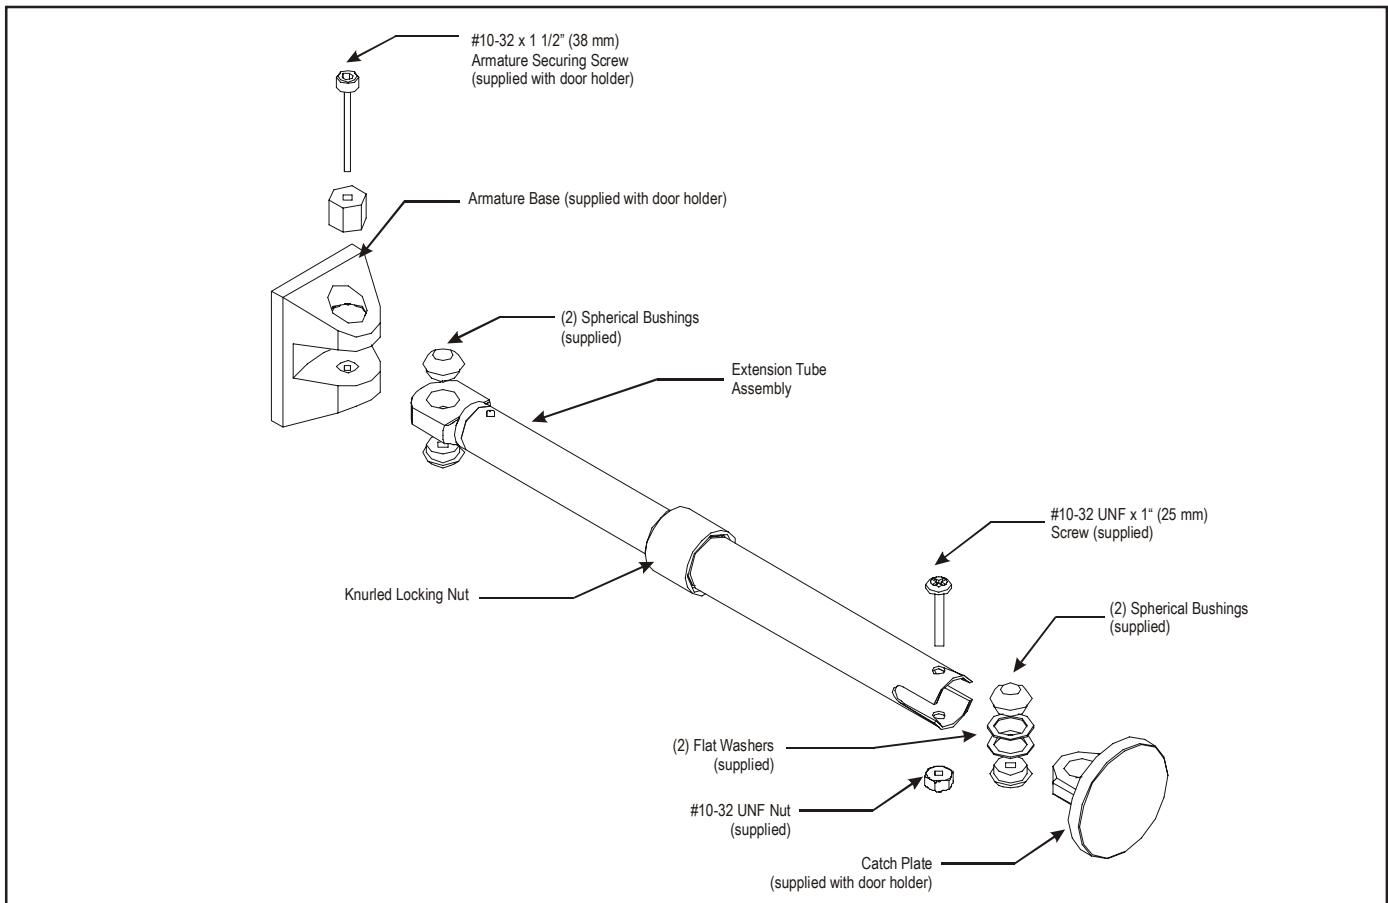
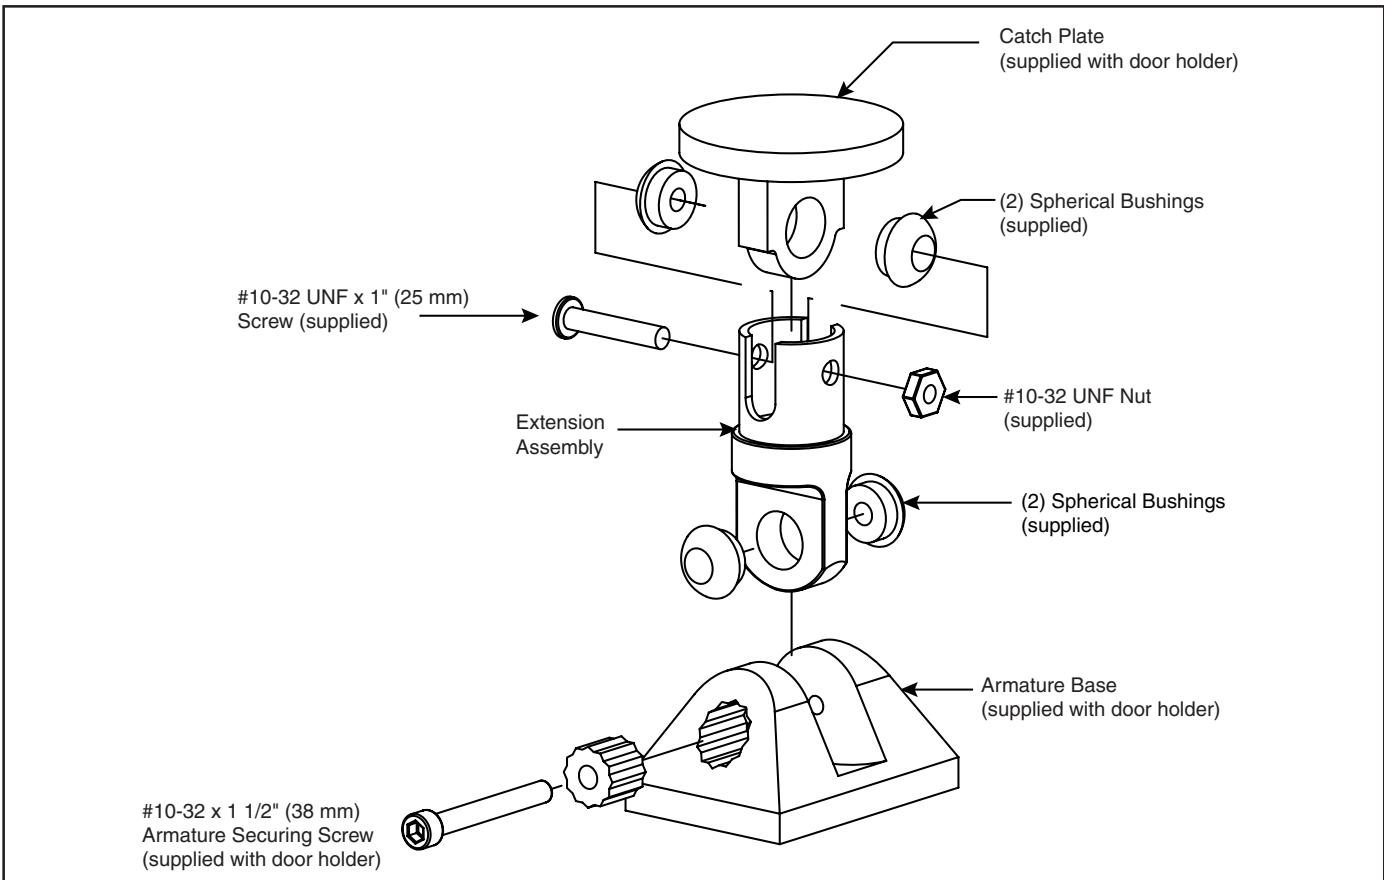

Figure 2. Extension Rod Assembly (Adjustable EX EXT 7" and EM EXT 12" Model)
Figure 3. Extension Rod Assembly (Adjustable EM EXT 1" and EM EXT 2" Model)
- d. Insert spherical bushings (supplied) and flat washers (supplied with EM EXT 7" and EM EXT 12" only) into the extension rod assembly as shown in Figure 2 or Figure 3, as applicable. Secure catch plate in extension rod using #10-32UNF x 1" (25 mm) securing screw (Figure 2).
- e. For adjustable units only, adjust the extension length by loosening the knurled locking nut, extending the rod to the desired length and retightening the knurled locking nut (Figure 2).
- g. After the desired extension length and contact alignment have been achieved, perform the following (Figure 2):
1. Using a 5/32" (4 mm) Allen Wrench (supplied), lock the extension arm into position by tightening the armature securing screw (Figure 2). **Do not overtighten.**